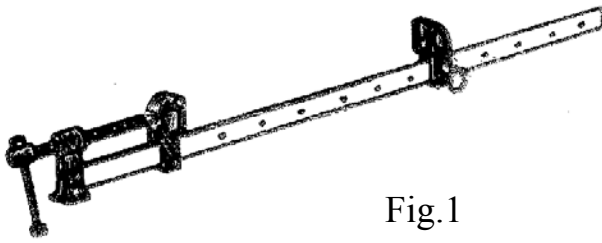

Fig.1
1. State the name of the cramping device shown in Fig. 1, and state **ONE** situation where it may be used.